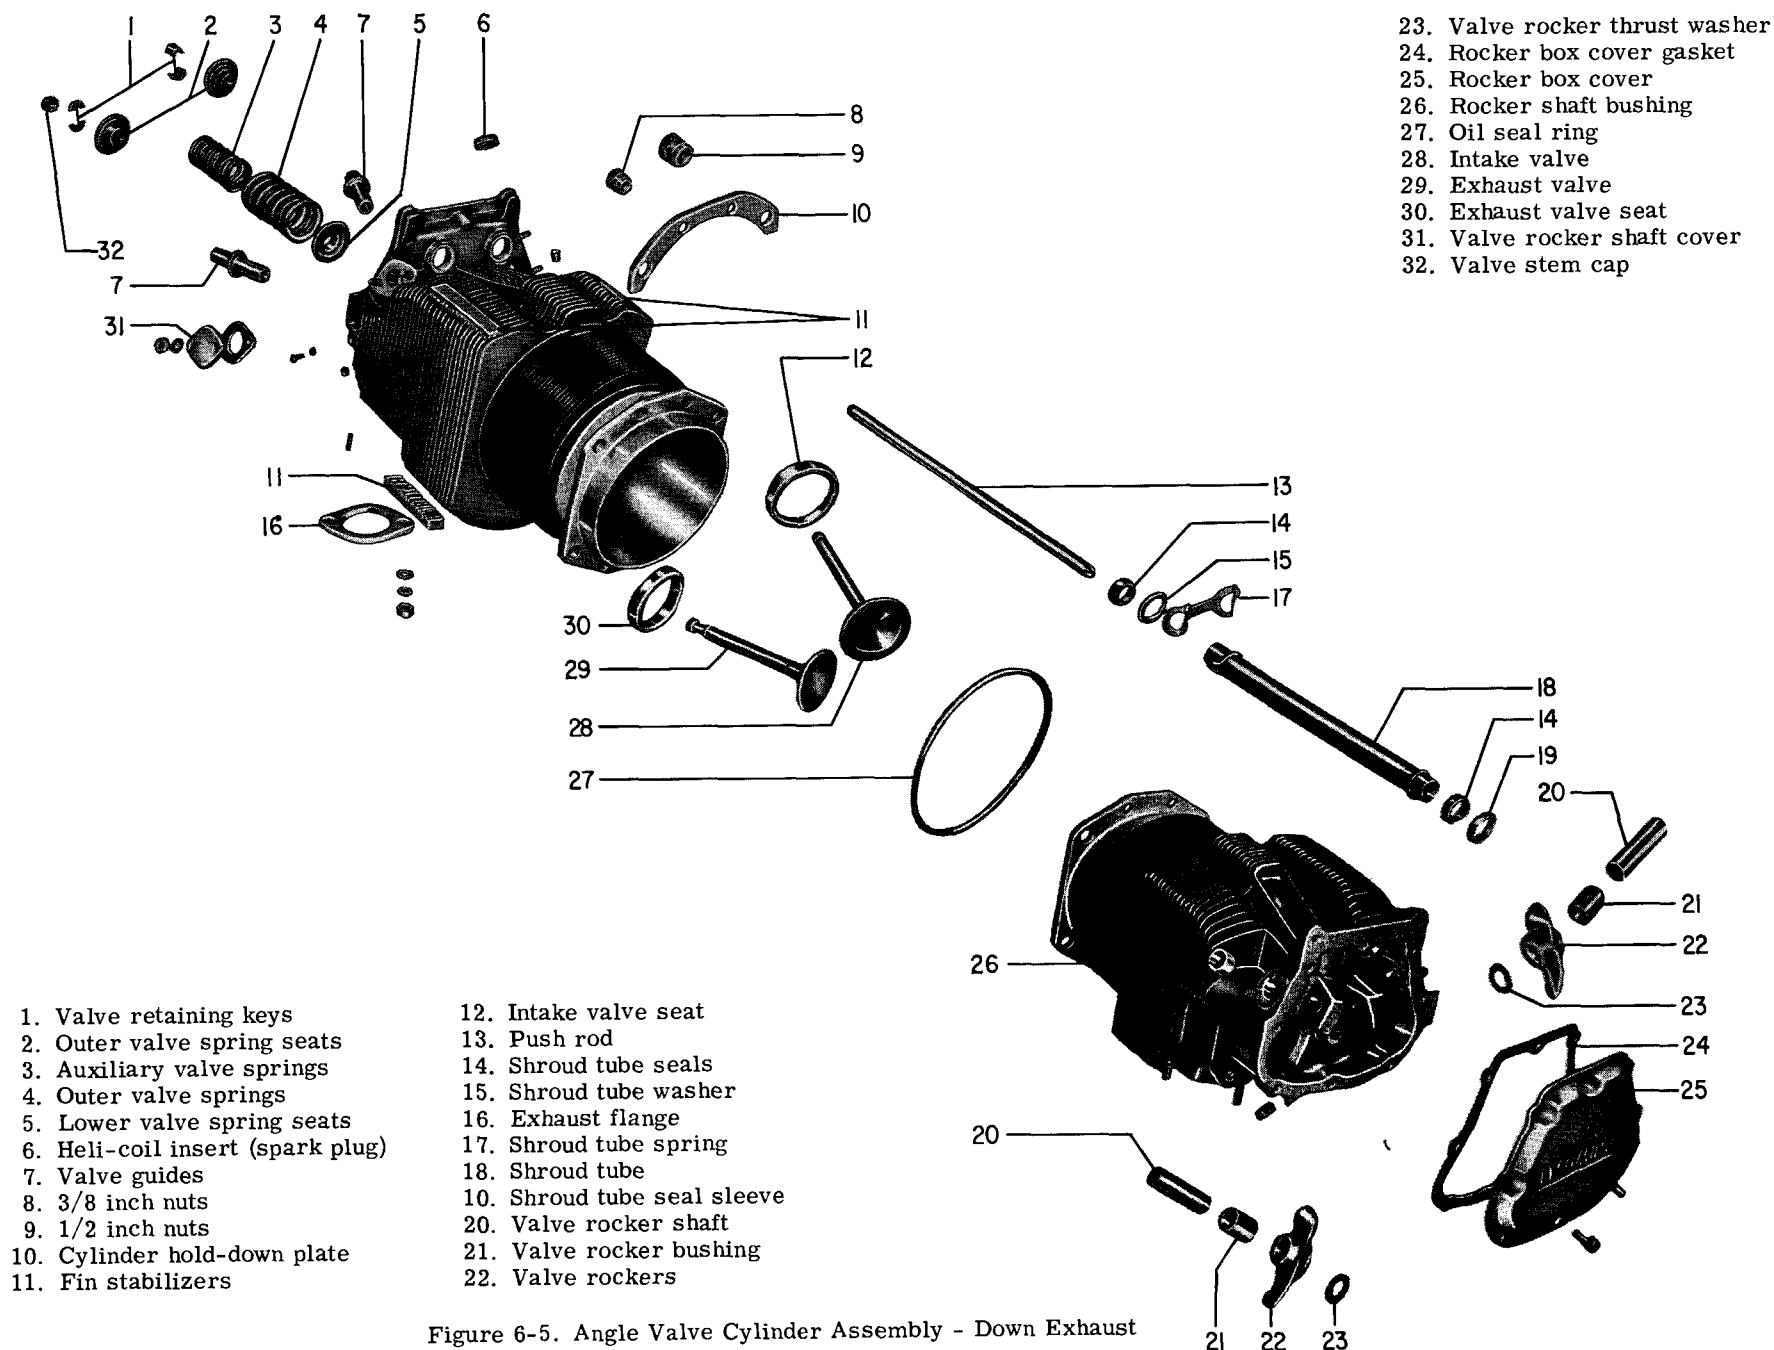

Figure 6-5. Angle Valve Cylinder Assembly - Down Exhaust
6-13. ANGLE VALVE CYLINDERS. See figure 6-5 or 6-6. Remove rocker shaft covers (31) and gaskets. Push valve rockers shafts (20) outward to allow clearance for removal of valve rockers (22) and thrust washers (23). Remove valve stem cap (32). Do not attempt to remove valve rocker shafts until the cylinder is removed. Remove the push rods (13) by pulling through the shroud tube (18). Using shroud tube wrench (ST-142) turn each shroud tube 90° either way, this releases the detent on tube from spring. Remove the tubes by first releasing them from the seal seats in cylinder head and then withdrawing tubes from seal retainers in crankcase. Remove shroud tube seal sleeves (19) and seals (14) from end of shroud tubes; also remove seals from crankcase. Discard all seals. Place washer (15), springs (17) and sleeves (19) in the cleaning basket.